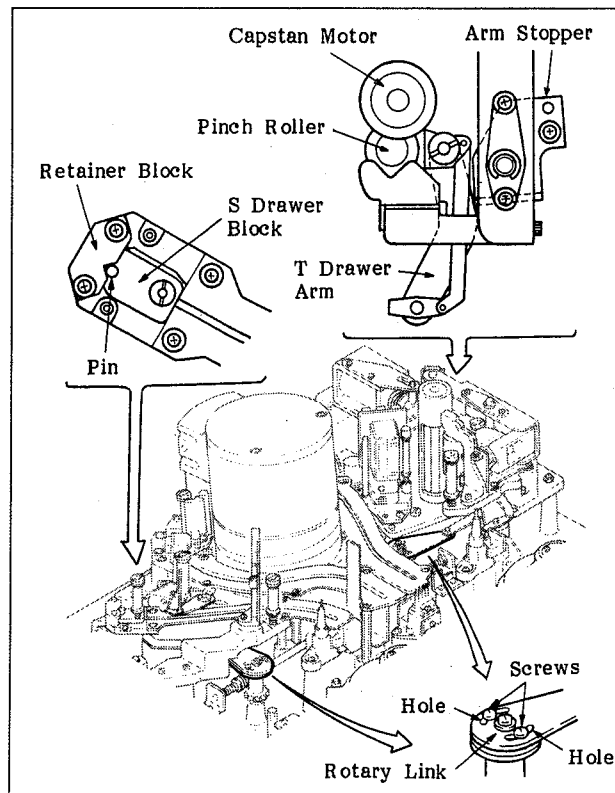

Fig. 6-98 Adjustment of the Position of the Rotary Link
- Press the **F3** (C), **4**, **SET**, **F6** (F), **2**, **SET**, and **<** keys on the control panel in that order to set the machine in the threading status without loading the cassette tape.
- Press the **F6** (F), **2**, **SET**, and **<** keys on the control panel in that order to set it in the unthreading status.
- Check that the S drawer block pin touches the retainer block and the T drawer arm touches the arm stopper at the same time, as shown in Figure 6-98. If they do not, loosen the two screws that hold the rotary link on the T drawer arm side and adjust the position of the rotary link.